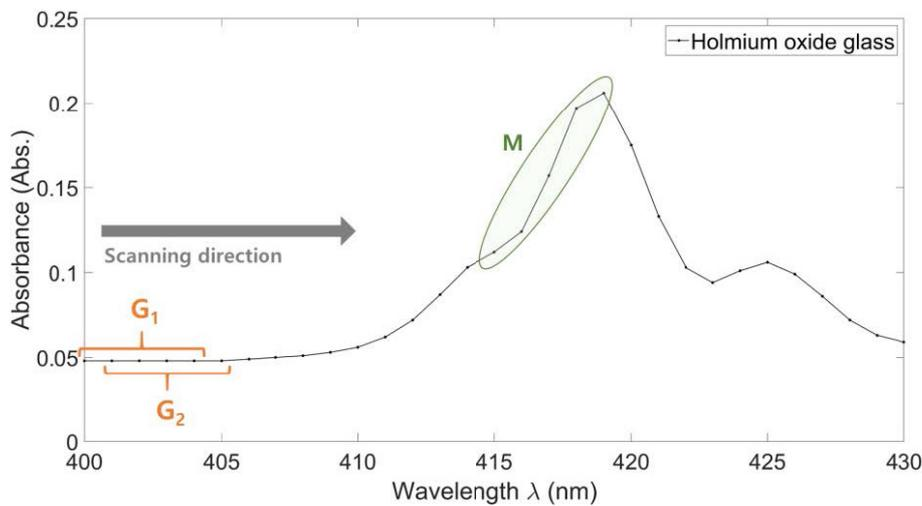

Fig 1. Scanning data points when  $N = 5$
a) Enter the number of points,  $N$ , to be applied to the peak detection algorithm.  $N$  means the number of scanning data points (see Fig. 1).